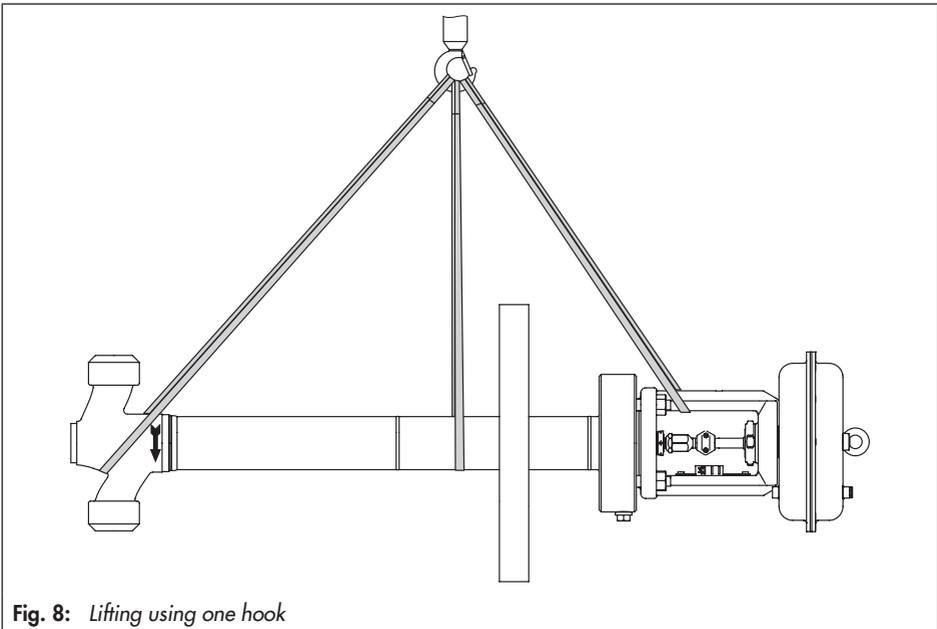
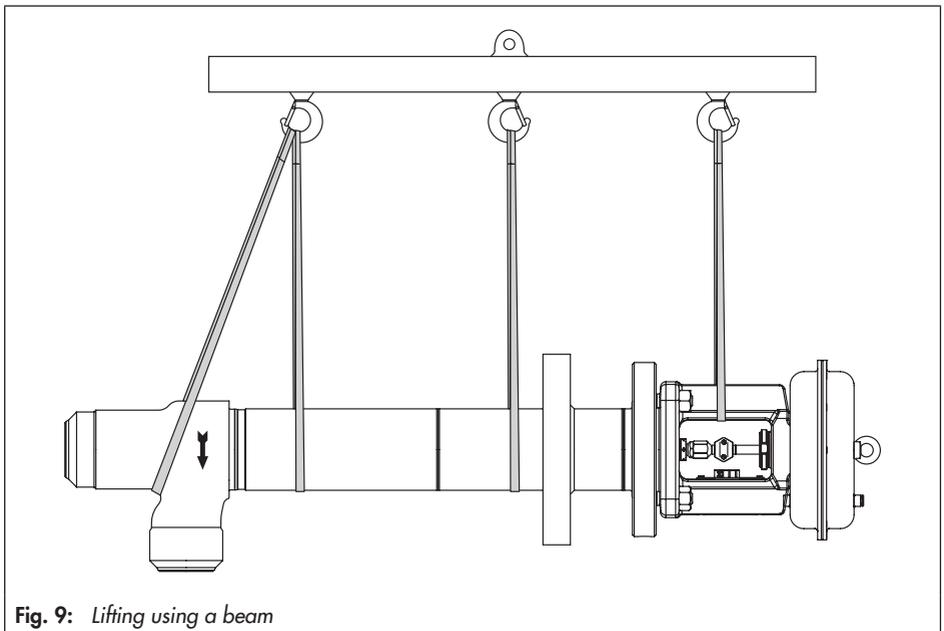

Fig. 8: Lifting using one hook
Fig. 9: Lifting using a beam
The control valve can be lifted in the horizontal position either using one hook (Fig. 8) or using several hooks on a beam (Fig. 9).
1. Attach one sling to the valve body, cryogenic extension bonnet, and valve bonnet or yoke as well as to the rigging equipment (e.g. hook) of the crane or forklift (see Fig. 8).
2. **With beam, NPS 4 and larger:** attach additional sling to support the valve at the body (see Fig. 9).